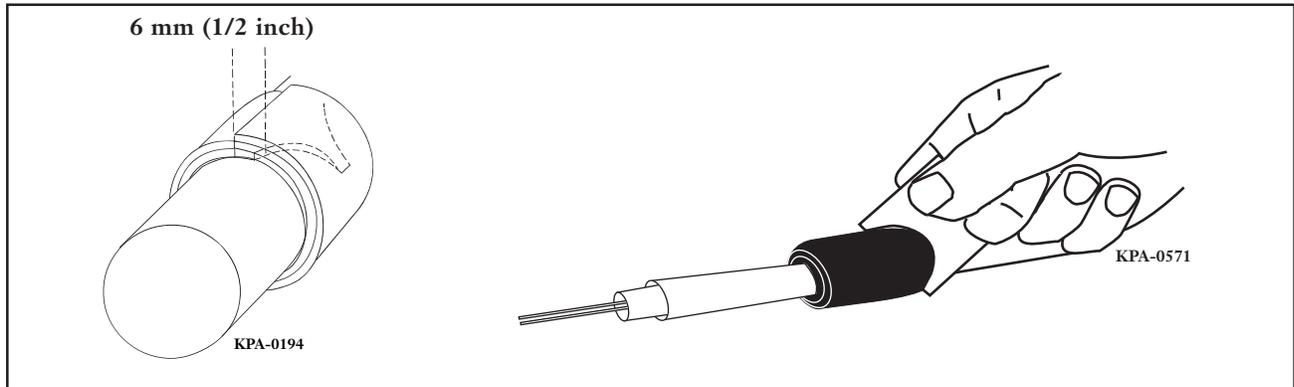

Figure 9 — Measure Wrapped Cable
**Step 5** Apply sealing tape to the cable sheath in the marked area. Wrap the tape until it conforms to the diameter on the supplied gauge (Figure 9). Always finish with a complete wrap that overlaps the starting point by  $\frac{1}{2}$  inch.